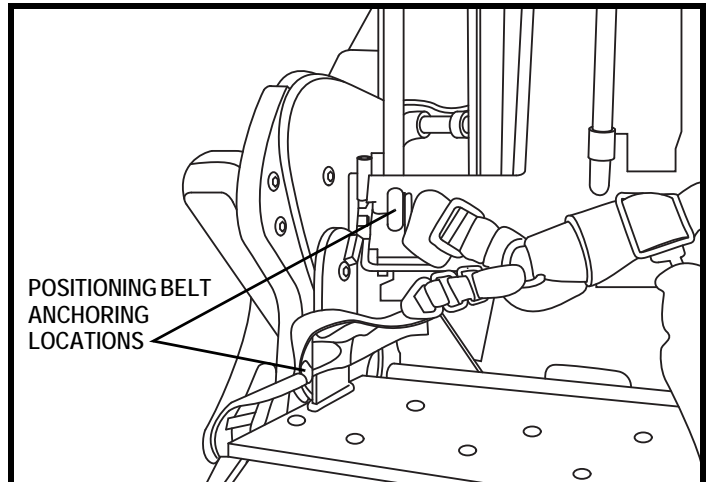

Figure 53. Positioning Belt Anchor Locations
2. Use the positioning belt anchoring locations to attach the positioning belt, according to the manufacturer's instructions. See figure 53.